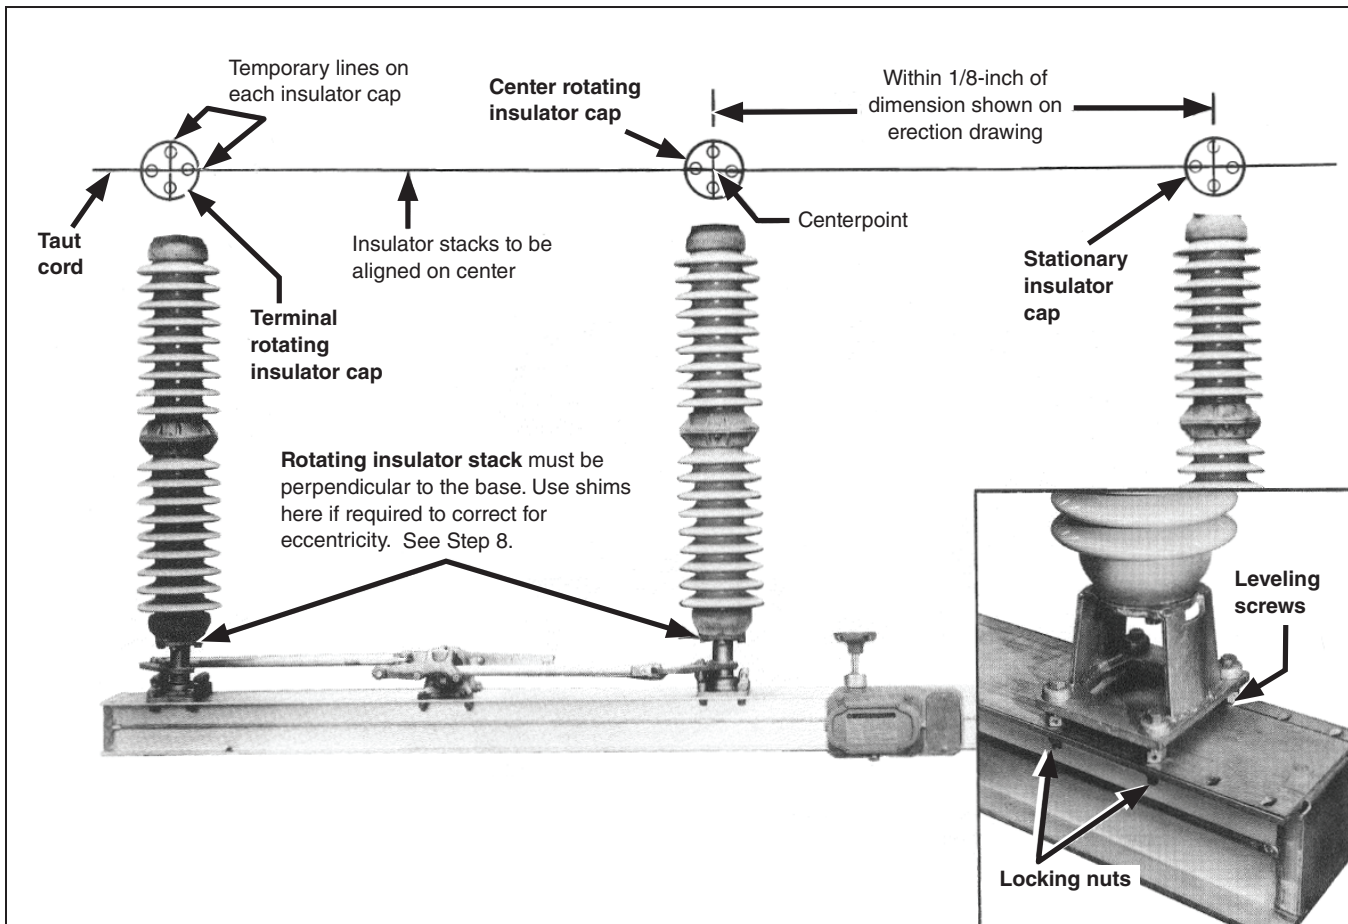

Figure 9. Obtaining critical dimension and alignment with shims and leveling screws.
- (a) Locate the centerpoint of each insulator stack by accurately drawing, on the top of the insulator cap, temporary lines that bisect and connect opposite bolt holes. See Figure 9.
- (d) Operate the temporary hand-operation adapter and check to see the mark on the cord remains within $\frac{1}{8}$ -inch (3 mm) of the centerpoint of the rotating insulator cap as the insulator stack turns. Any eccentricity in excess of this value must be corrected by placing shims between the insulator stack and its support. See Figure 9. Shimming material is included with the insulator hardware in a package attached to the pole-unit base.
STEP 9. The stationary insulator stack should be checked for alignment with the rotating insulator stacks by stretching a cord taut across the top of the insulator caps so it crosses the centerpoint of all three insulator stacks. Then measure the center-to-center distance between the stationary insulator stack and the center rotating insulator stack. See Figure 9 on page 14. This distance must be within $\frac{1}{8}$ -inch (3 mm) of the dimension shown on the erection drawing.
- (a) Using the access holes in the sides of the base, hold the four locking nuts and turn the leveling screws located under the stationary insulator support. See Figure 9 on page 14. (The leveling screws are threaded into the insulator support flange.) To avoid changing the effective height of the insulator stack, do not adjust more than three of the four leveling screws.